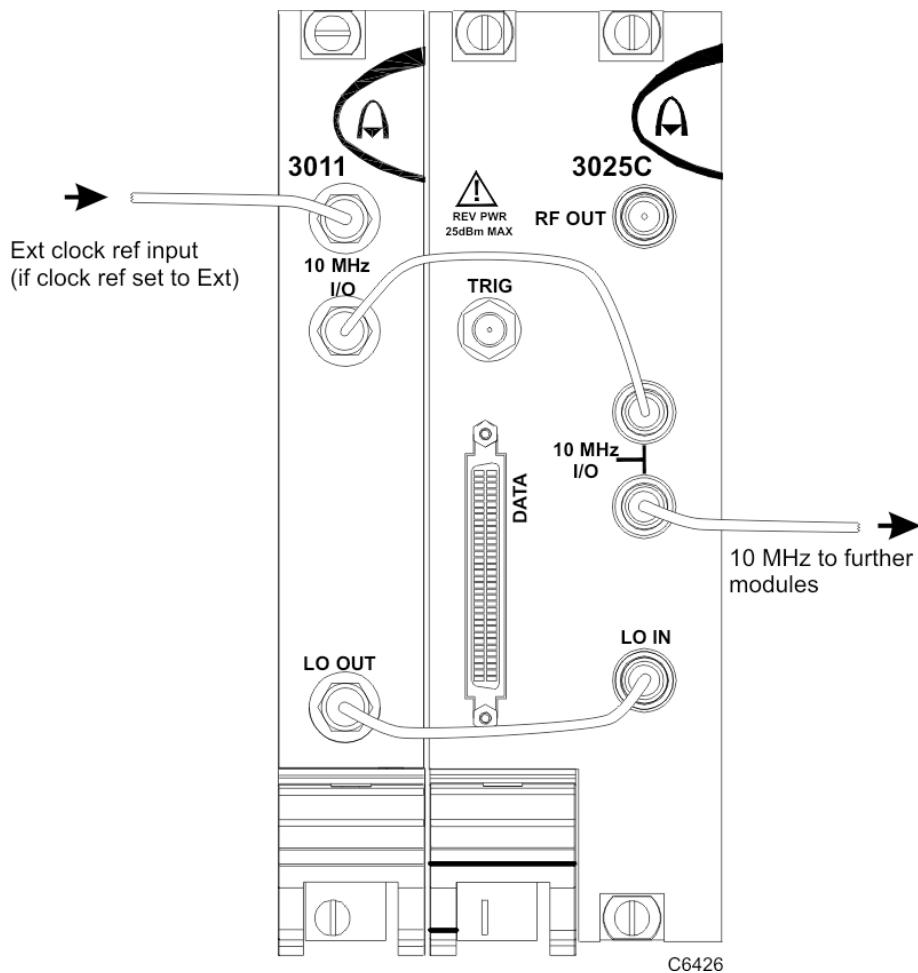

Fig. 6 Example of LO and 10 MHz connections
- Ideally, locate the 3010 Series module in the slot immediately to the left of the 3020 or 3030 Series module with which it is associated, as shown in the example (Fig. 6). This is not a necessity, but it facilitates short cable connections. It also makes accessible the PXI local bus between the 3010 Series and 3020/3030 Series modules, provided that the PXI chassis supports this for the slots being used.
- If the VCO source of the 3020 or 3030 Series module is set to external reference, link the 10 MHz I/O connectors on the two modules, as shown in the example (Fig. 6).